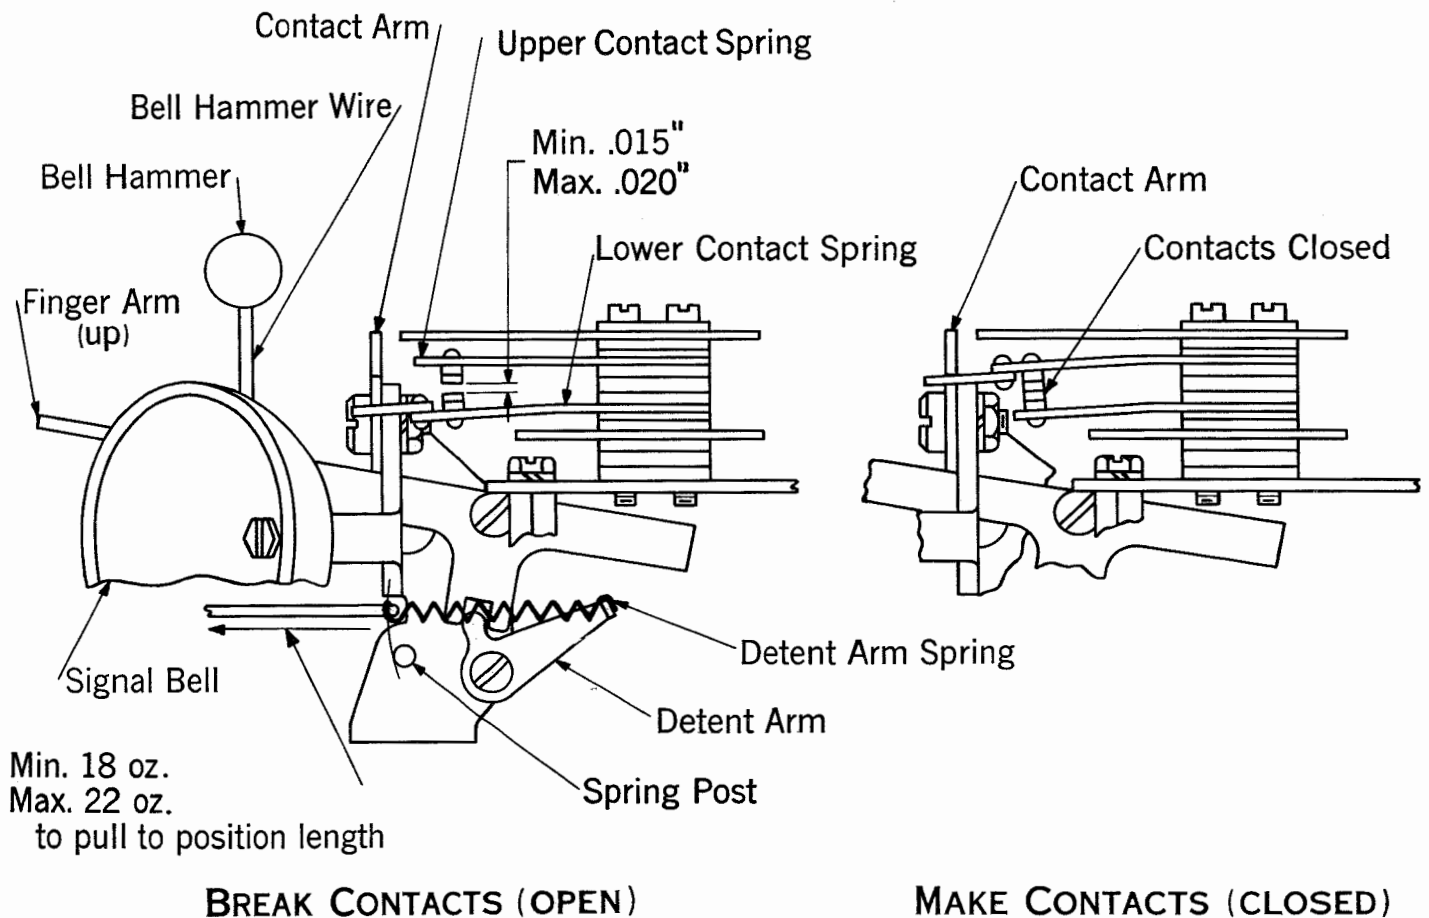

Figure 1
2.01 Detent-arm Spring: It should require minimum 18 ounces, maximum 22 ounces to pull the spring to position length with the finger arm against the upper stop. (See Figure 1.)
(a) Clearance between the contacts should be minimum 0.015 inch, maximum 0.020 inch with finger arm against the upper stop. (See Figure 1.)
(a) Clearance between the contacts should be minimum 0.015 inch, maximum 0.020 inch with the finger arm against the upper stop. (See Figure 1.)
(c) Make contacts (mounted on the right side of the slip-connection guard-plate) should be closed with a pressure of minimum 4-1/2 ounces, maximum 6 ounces measured at the contact points and with the finger arm resting against the upper stop. See Figure 1 for identification of parts.